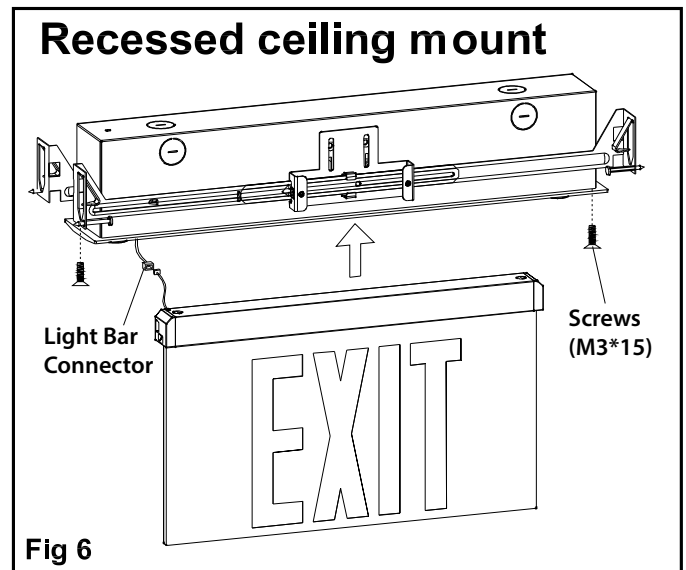

Fig 6
7. Assemble trim plate back, use M3\*15mm screws. (See Fig 6 or 7)
8. Connect light bar connector, assembly panel module to trim plate, adjust position of lamp heads as need. See Fig 6 or 7)